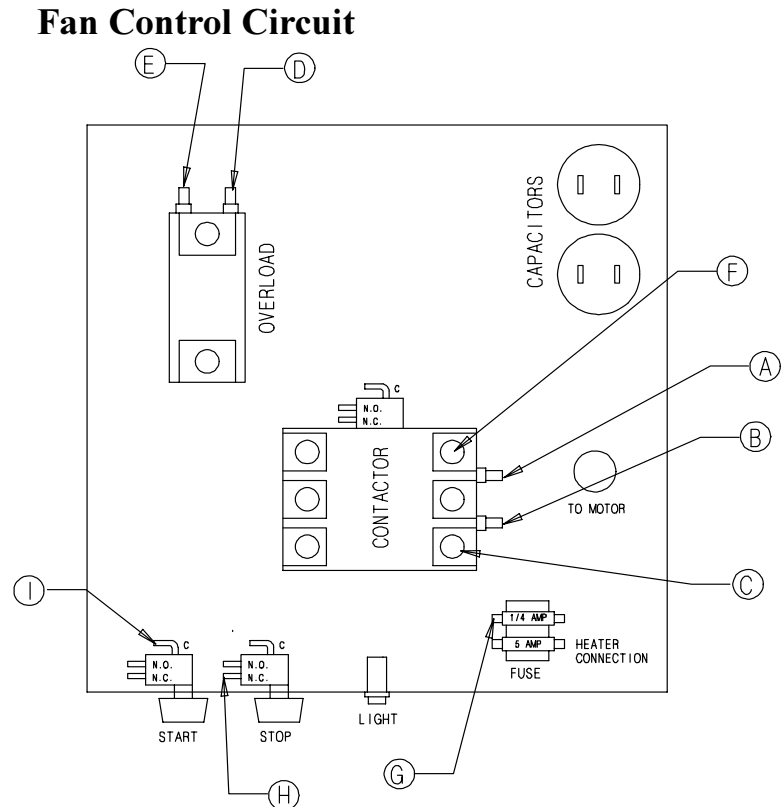

Figure 3: Fan circuit board.
6. Connect the bare ground wire to the fan control boxes with a grounding lug. See Figure 3